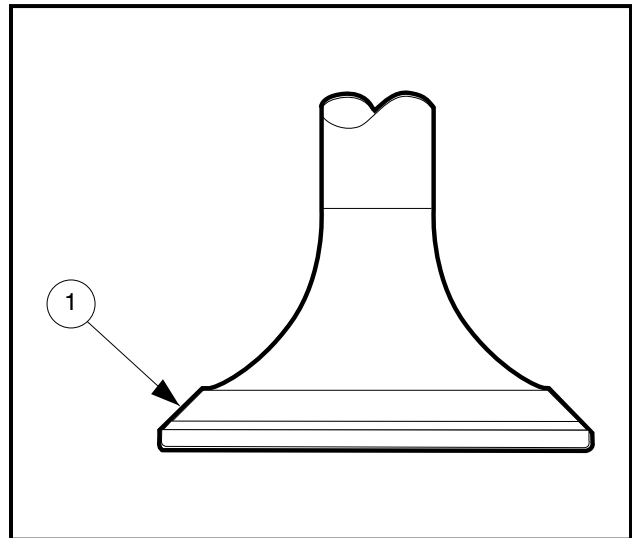

Figure 18-24 Valve Head Seating Area
1. Inspect the valve head seating area (1) for erosion, nicks and warping, etc. (**Figure 18-24, Page 18-13**). See following **NOTE**.